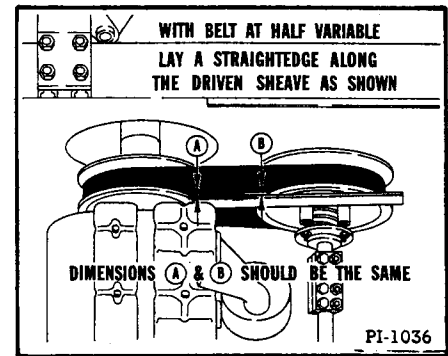

Fig. 56 Checking Belt Alignment
3. Recheck the alignment (Figure 56).